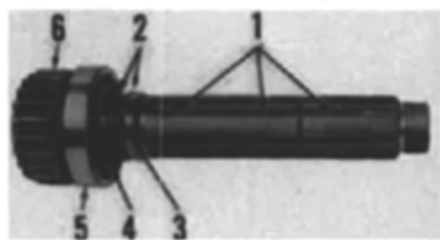

Fig. 79—View of main shaft showing lube holes and seal rings.
If it is necessary to renew the ball bearing (5—Fig. 79) on main shaft, remove the two seal rings (2), then wrap shim stock around the shaft at the seal ring grooves before removing snap ring (4) to protect the ring grooves. Be sure lube holes (1 and 3) are clean.